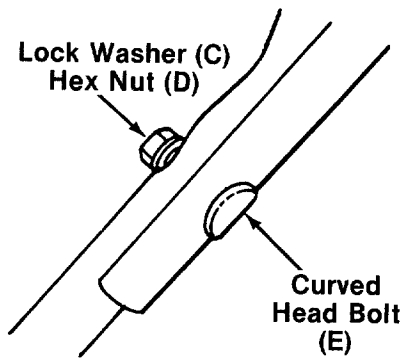

FIGURE 3.
- Place the upper handle in position over the lower handle. The control housing must be on the left hand side of the handle. Secure the left hand side of upper handle using the curved head bolt (E), lock washer (C) and hex nut (D) as shown in figure 3.